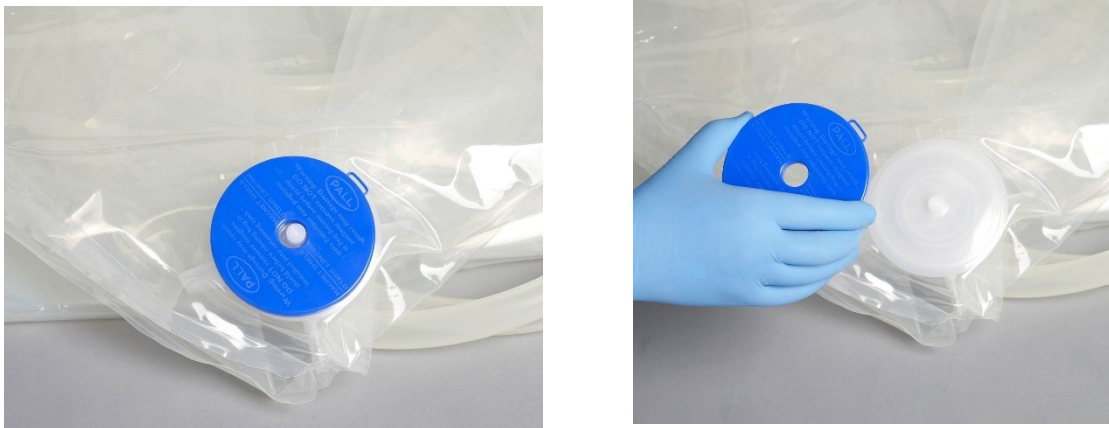

Figure 14: Removing blue shipping disc from Allegro mixing biocontainer
2. Verify the correct article code and expiration date. Remove the outer and inner packaging bag by tearing open at the easy tear notch (Figure 14) - **DO NOT USE SCISSORS OR OTHER CUTTING IMPLEMENTS**. Retain the label from the inner packaging according to the quality policies of your organization.